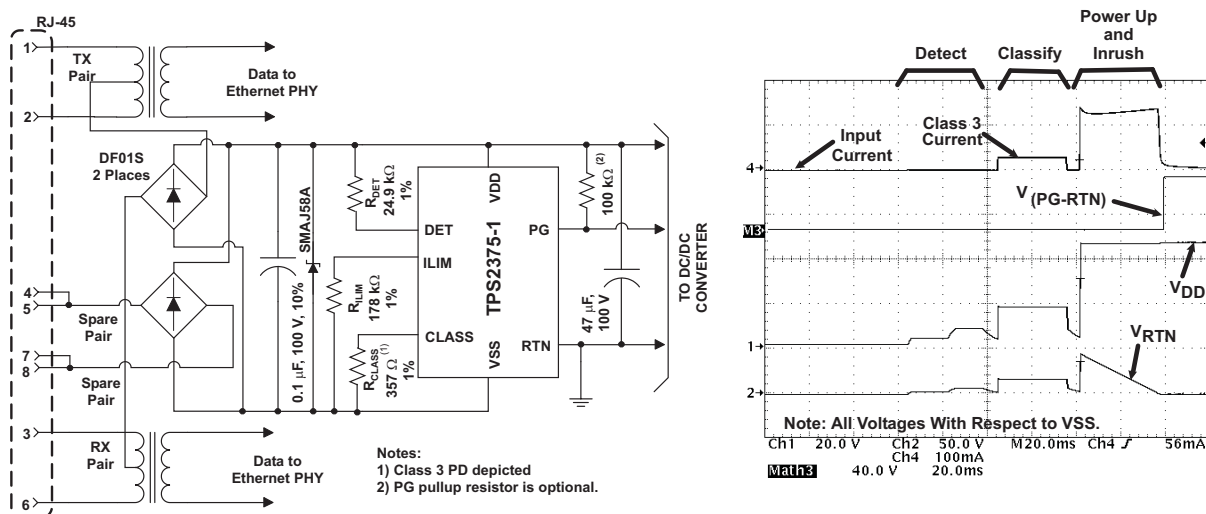

Figure 1. Typical Application Circuit and Start-Up Waveforms
(1) Stresses beyond those listed under "absolute maximum ratings" may cause permanent damage to the device. These are stress ratings only, and functional operation of the device at these or any other conditions beyond those indicated under "recommended operating conditions" is not implied. Exposure to absolute-maximum-rated conditions for extended periods may affect device reliability.
(3) SOA limited to $V_{(RTN)} = 80$ V and $I_{(RTN)} = 515$ mA.
(4) Surges applied to RJ-45 of Figure 1 between pins of RJ-45, and between pins and output voltage rails per EN61000-4-2, 1999.